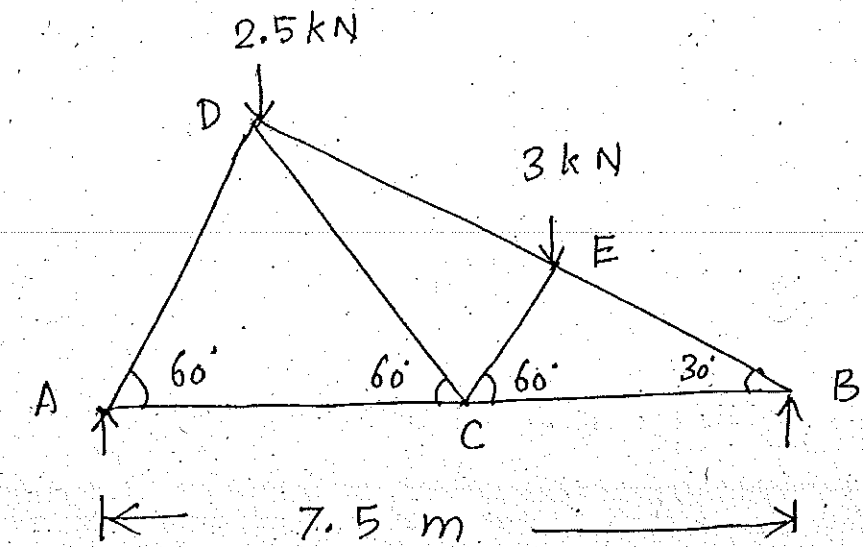

Fig. Q.15(a)
15. (a) Determine the forces in the members of using method of joints. The truss is given in Fig. Q.15(a).
- (b) Analyse the frame given in Fig. Q.15(a) by method of sections.